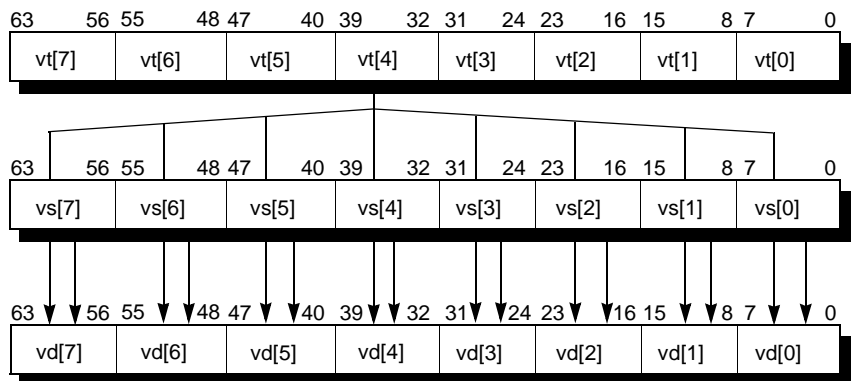

Figure 19-2 Vector-Scalar Operation
- **Vector-Scalar.** Each element of source vector *vs* is operated against a selected element of source vector *vt* to produce destination vector *vd*, as shown in Figure 19-2